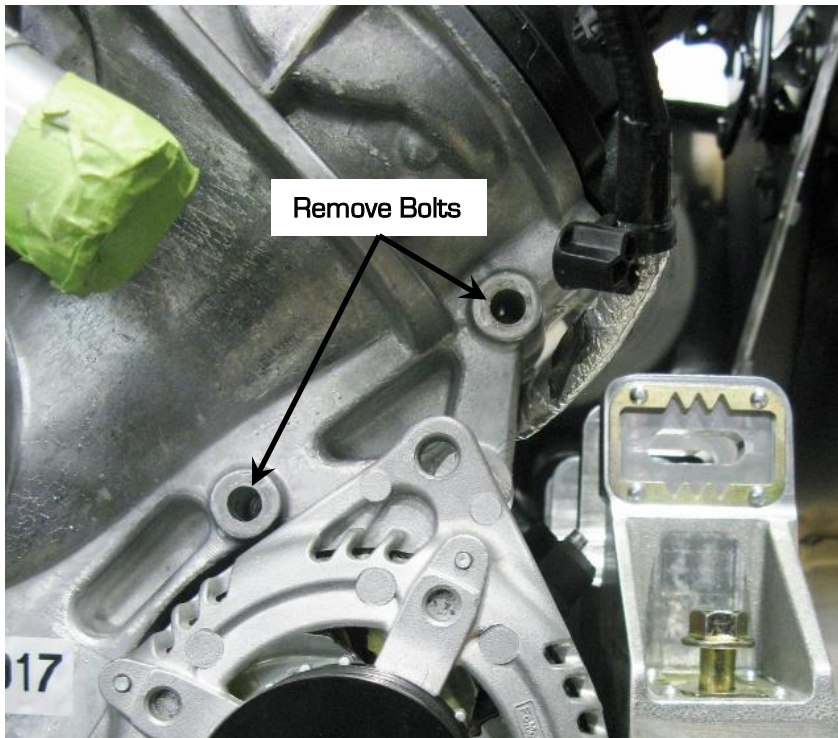

Figure 4 - Remove 2 Front Cover Bolts
4. Remove the 2 front cover bolts above the alternator (Figure 4). These bolts will not be re-used with the DSE relocation bracket.